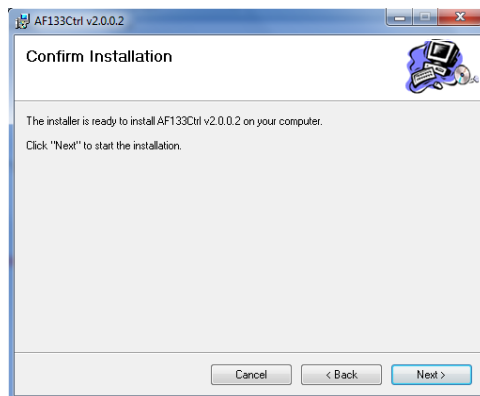

Figure 4
3. Select the "Next" button. *To confirm and proceed with installation select "next" (Figure 4).